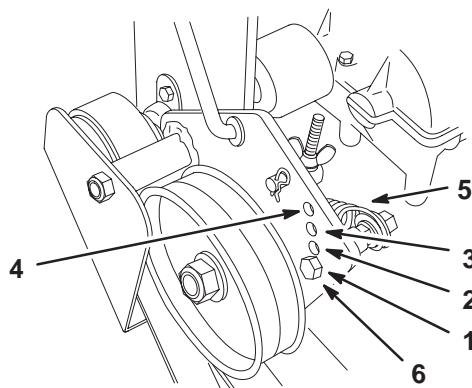

Figure 45
3. Remove drive spring from adjustment bolt assembly (Fig. 45).
4. Remove the adjustment bolt assembly (Fig. 45).
Note: Do not over extend the spring. The spring length should not exceed 7-5/8 inches with the parking brake engaged (Fig. 45).